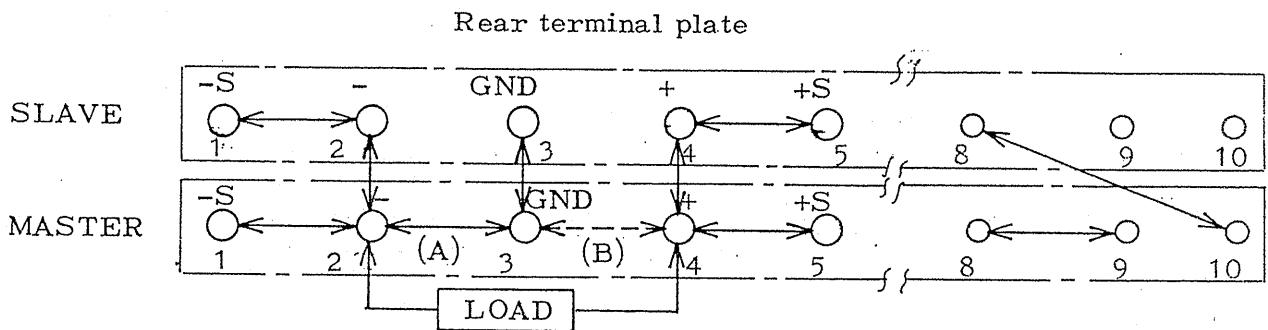

Fig. 3-8 One-control parallel operation master, slave, load
- (1) Connect the terminals on the rear panel of the master (Output voltage is directly controlled.) to the slave (Output voltage is controlled by master power supply.) as shown in Fig. 3-8.
- (2) Pick up the output at the output terminals on the rear panel of the master.